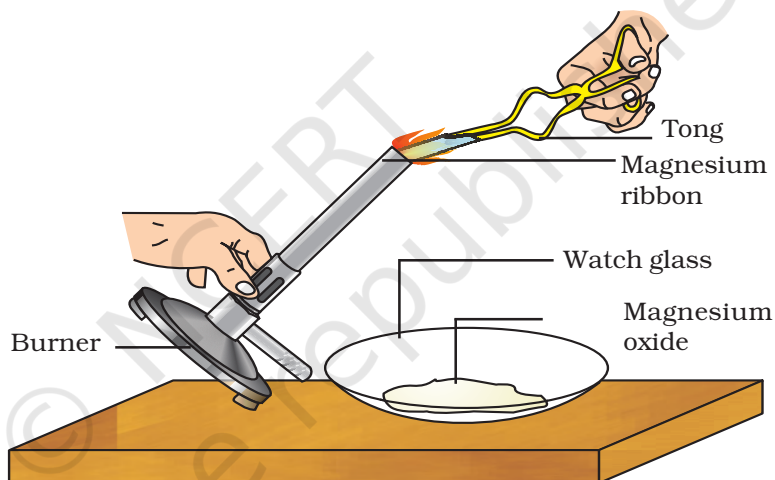

Fig. 1.2 : Burning of magnesium ribbon and collection of magnesium oxide on a watch glass
2. Hold the magnesium ribbon with a pair of tongs over a watch glass and burn it in air with a burner (Fig. 1.2). Watch the burning of magnesium ribbon using a pair of dark coloured goggles.